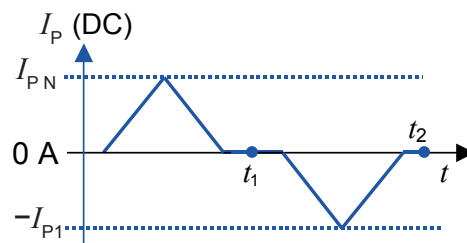

Figure 21: Current cycle used to measure magnetic and electrical offset (transducer supplied)
- or in a known magnetization state, like in the current cycle shown in figure 21.
Using the current cycle shown in figure 21, the electrical offset is: